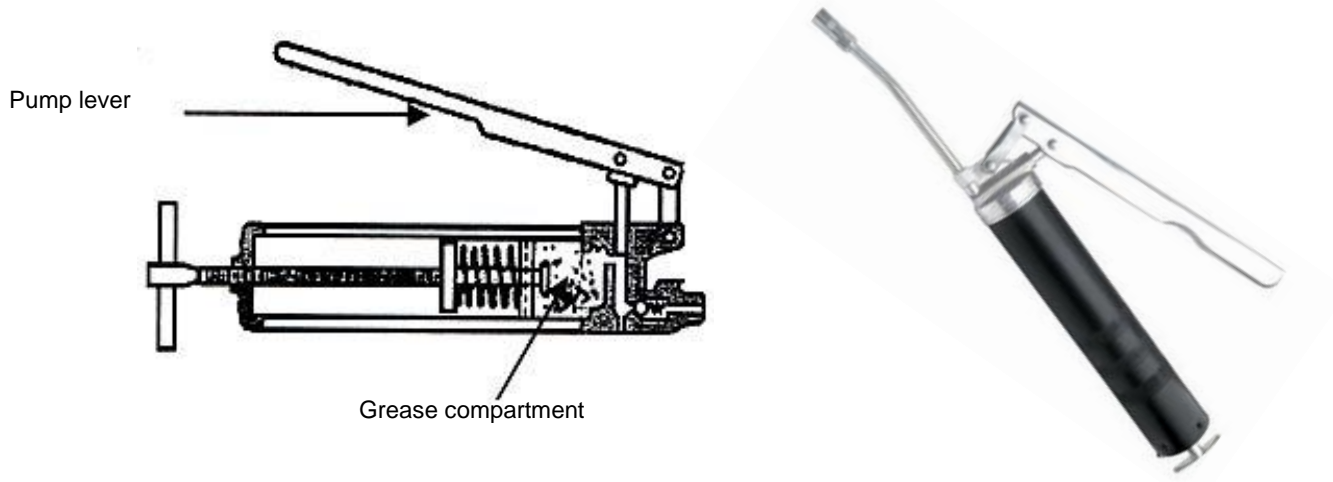

FIG 4.
- A pump-type grease gun (Fig 4 below) is used to pump the grease into the part.